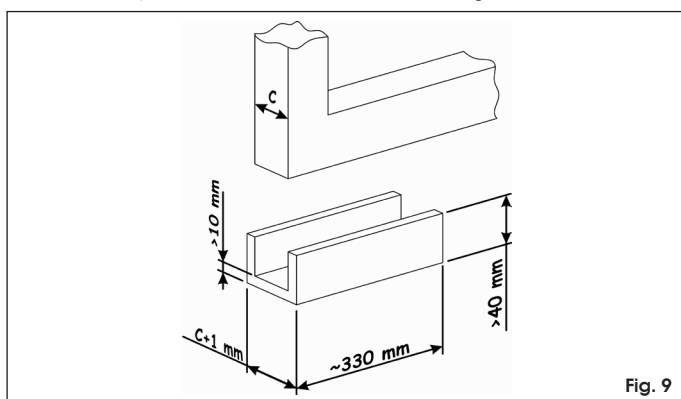

Fig. 9
- use a "U" profile with dimensions indicated in Fig. 9;